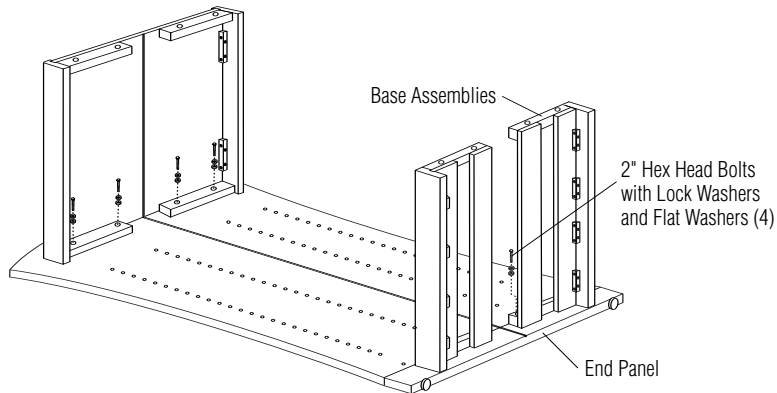

Figure 2
3. Position the base assemblies by aligning the holes so that the bottoms of the base assembly facings are flush with the bottom of the end panel. Fasten with 2" hex head bolts and washers (Figure 2).